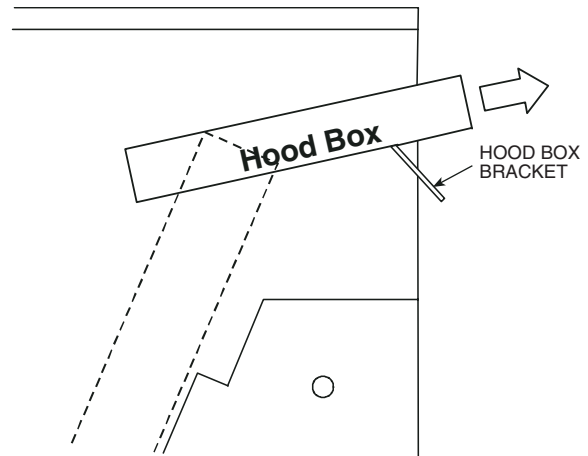

Fig. 18 — Hood Box Removal
2. The box with the EconoMiSer+ hood components is shipped in the compartment behind the EconoMiSer+. The EconoMiSer+ does not have to be removed to retrieve the hood box. Remove the screw holding the hood box bracket to the top of the EconoMiSer+. Slide the hood box out of the unit. See Fig. 18.